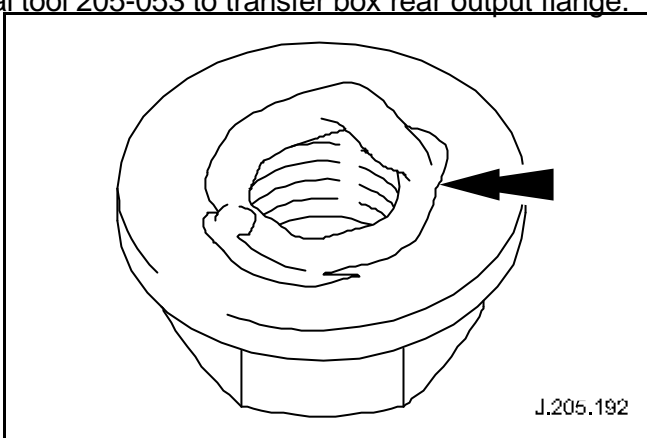

Fig. 3
- 11 Apply sealer (C2S 12099) to mating face of transfer box rear output flange securing nut (see Fig. 3).